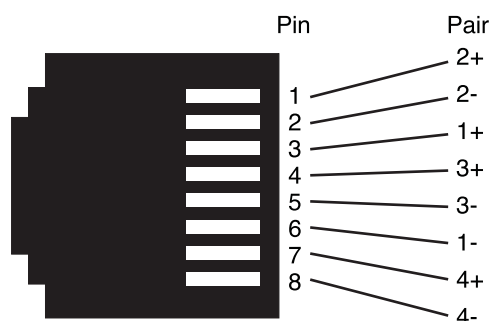

Figure 7. RJ-45 pin-out
2. The CL1101 is equipped with an RJ-45 interface jack (see figure 7)